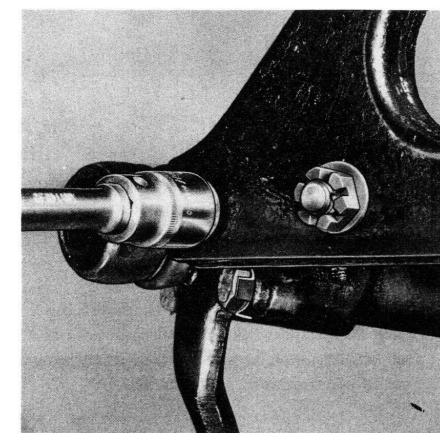

Fig. 32
7. Torque castellated nuts on the transverse support arm to 7,5 mkp (54,2 lb/ft); use washers and secure nuts with cotter keys. (See Fig. 32).